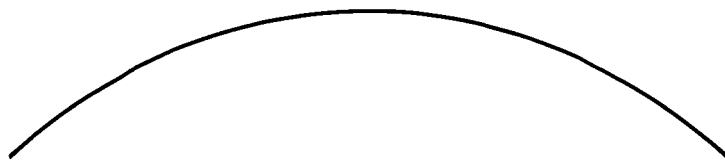

Fig. 2
2. Showing all geometrical construction lines determine, in millimetres, the radius of the arc shown in Figure 2.